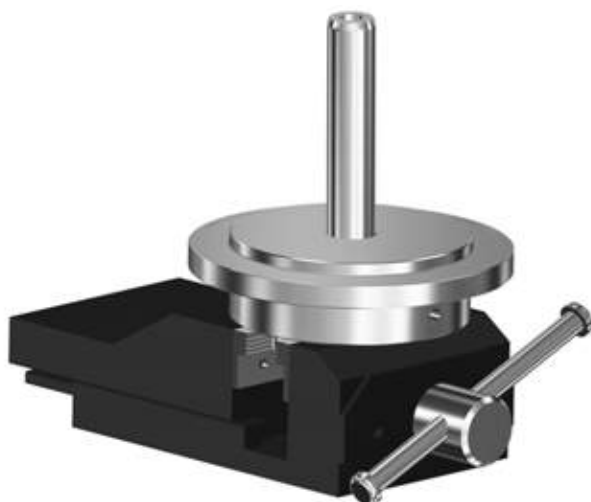

Fig. 30 Service tool L placed in a vice
2. Place service tool L in a vice. See fig. 30.